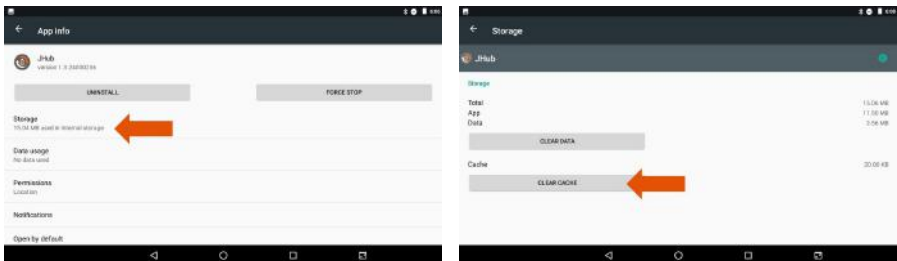

Figure 12: Clearing the JHub App Cache
3. Go to the tablet's Settings menu (figure 7) and select Apps, scroll down and select the JHub App. Click on Storage then Clear the Cache (figure 12).